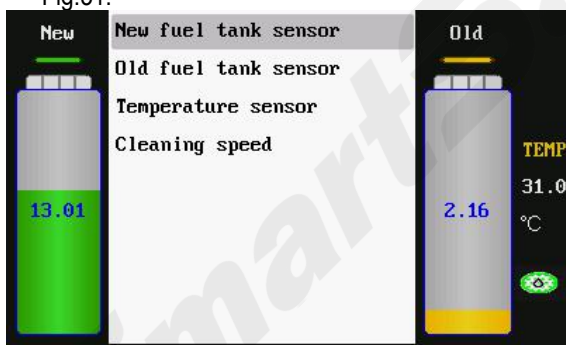

Fig.31
- 1) Select the item for sensor calibration, press OK key to OK the sensor calibration menu as shown in Fig.31.